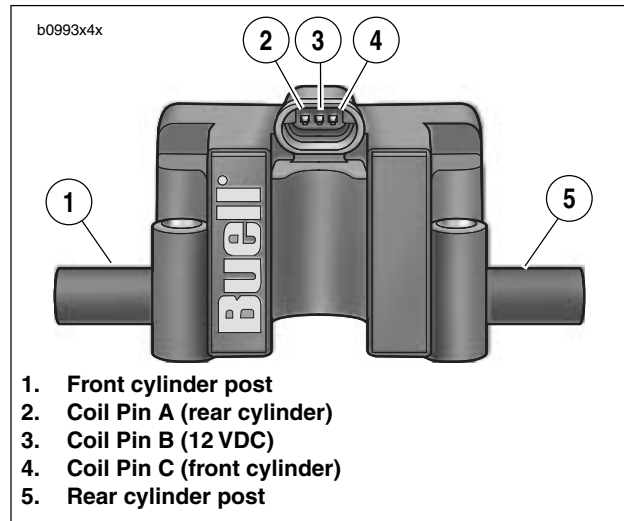

Figure 4-49. Ignition Coil
See Figure 4-49. The coil receives power from the ignition relay at coil pin B (3) at the same time that the fuel pump and injectors are activated.